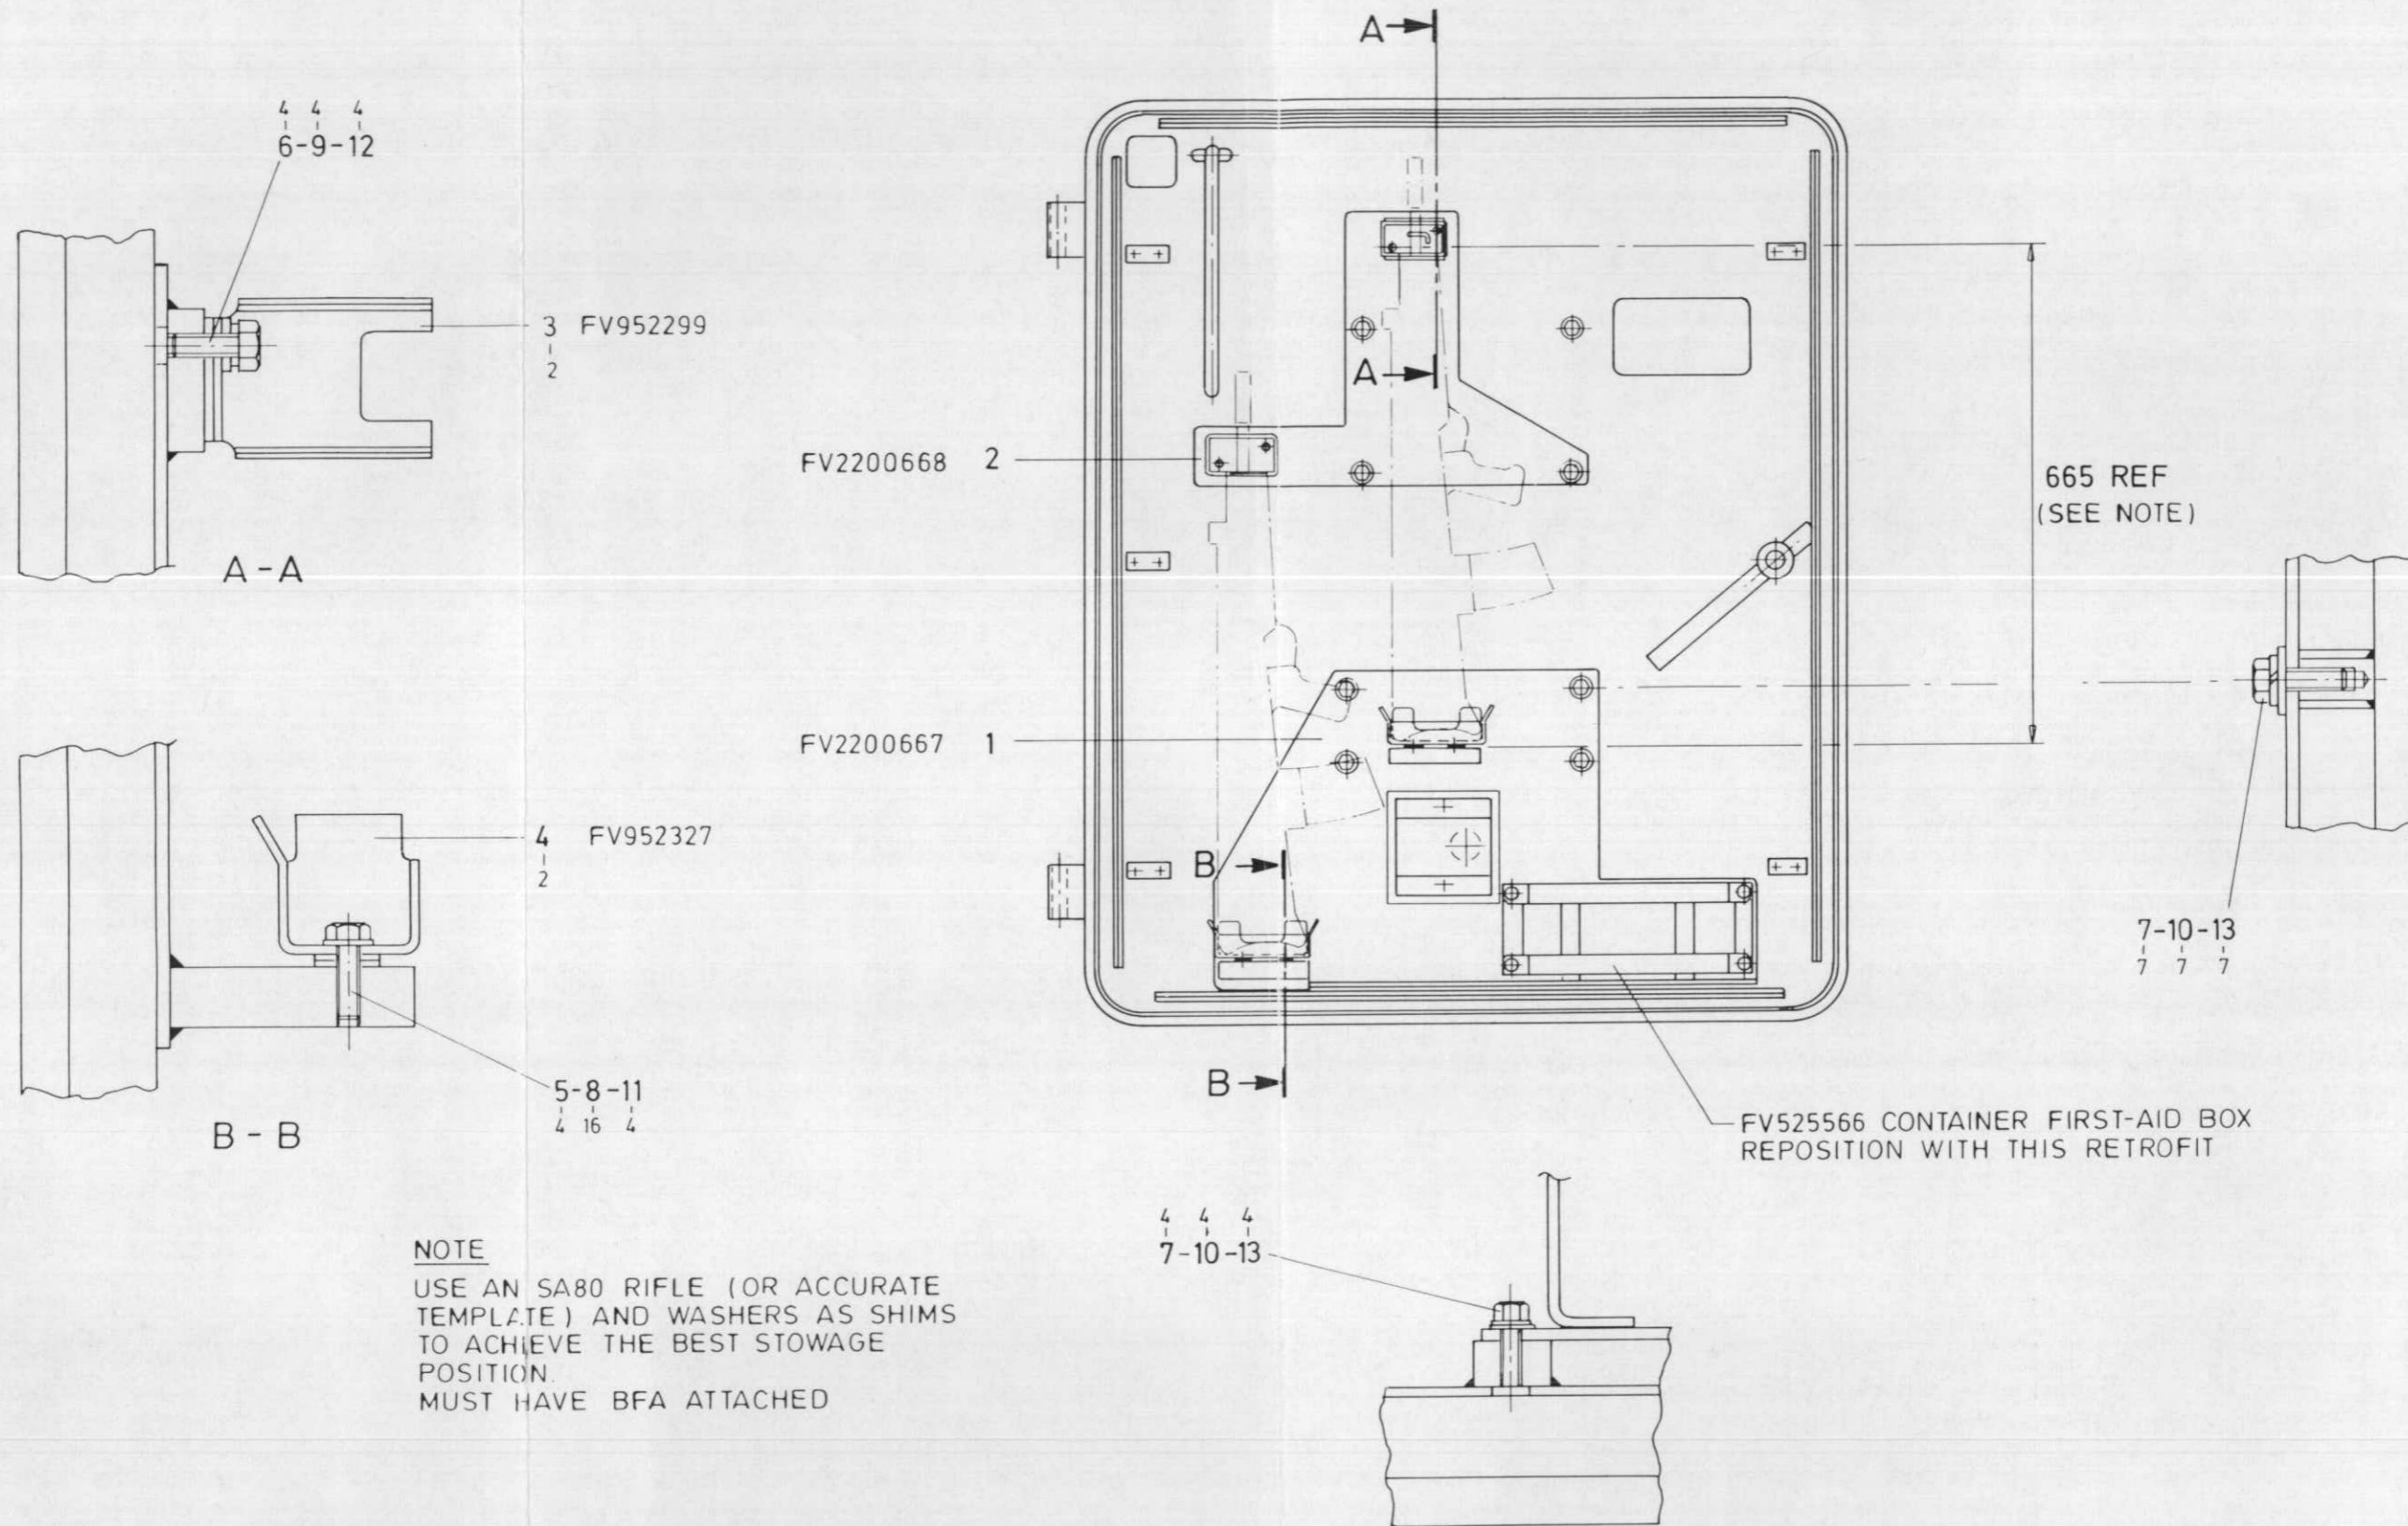

Fig 1 SA80 Rear door stowage
Refer to Fig 1
9.2 Fit the assembly to the rear door using fasteners (items 7, 10 and 13) as shown in Fig 1.